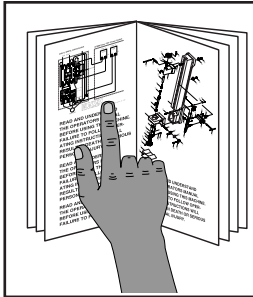

Figure 11. Feed direction and speed switch.
6. Connect the power feeder to the power supply and use the feed direction switch (**Figure 11**) to test operation in both directions and both speeds.